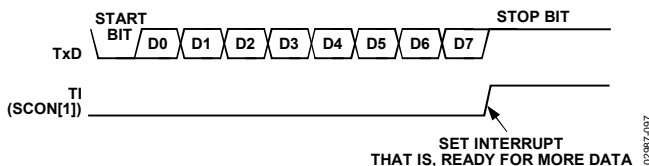

Figure 82. UART Serial Port Transmission, Mode 0
Transmission is initiated by writing to SBUF. The write to SBUF signal also loads a 1 (stop bit) into the ninth bit position of the transmit shift register. The data is output bit by bit until the stop bit appears on TxD and the transmit interrupt flag (TI) is automatically set, as shown in Figure 82.